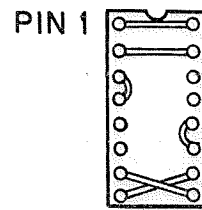

FIGURE 8-3
1. JP-A is a standard jumper plug which is used when handshaking with the external equipment is not needed. (See Figure 8-3)